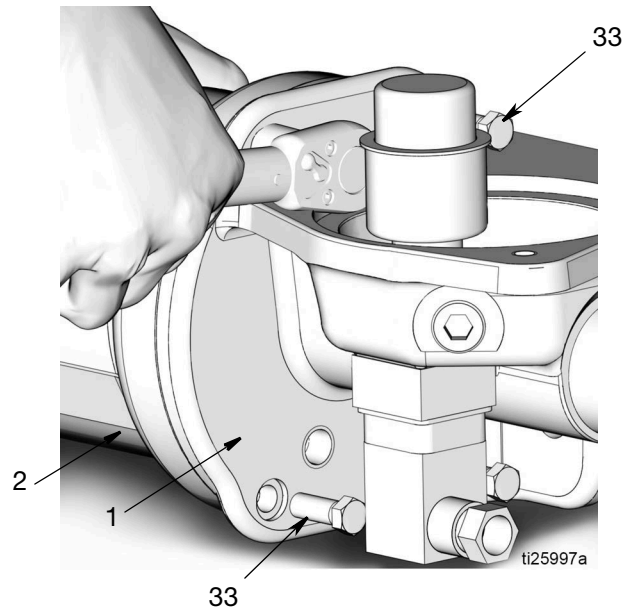

FIG. 18
14. Use a 3/8 inch socket to remove the 4 bolts (33) holding the air cylinder (2) to the pump base (1) (FIG. 18). Remove air cylinder from the pump base.